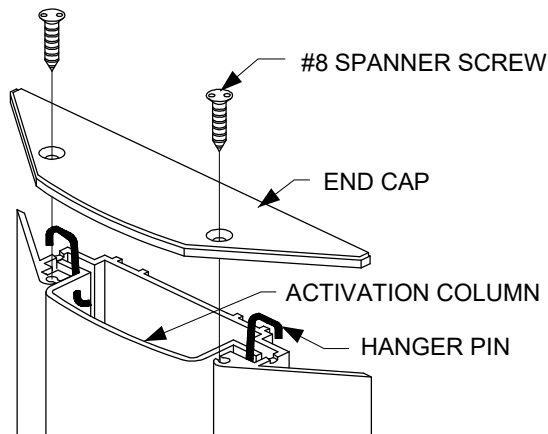

FIG. 2
1. Remove Spanner screws from cap. NOTE:- SPECIAL TOOL NEEDED - #8 Spanner screwdriver bit. Slide the ACTIVATION column out from the SWITCH BASE for base mounting (see FIG. 2).
5. Slide the ACTIVATION column back into the MOUNTING BASE. Compress the SWITCH SPRING as the ACTIVATION COLUMN passes the SWITCH SPRING. The HANGER PINS should rest in the slots at the top of the MOUNTING BASE (see FIG. 2).
6. Position END CAP onto the top of the MOUNTING BASE. Attach with the previously removed spanner security screws (see FIG. 2).